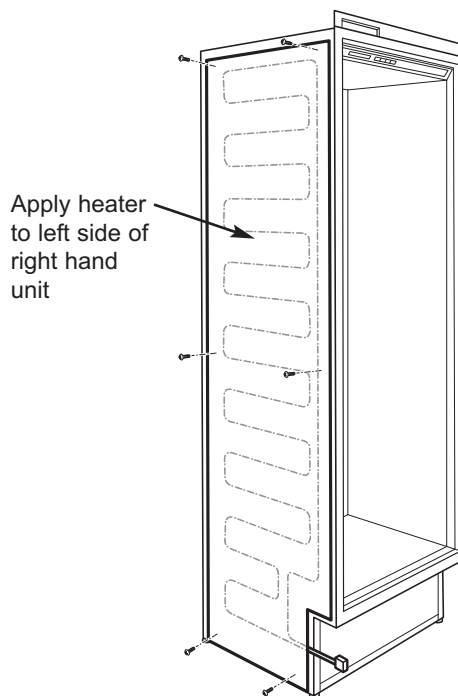

Figure 2-6. Dual Unit Heater Installation
- If two Tall units are installed side by side and are 2" or less apart, part #7007529 (AKA TTDUAL) should be utilized. (See Figure 2-6)